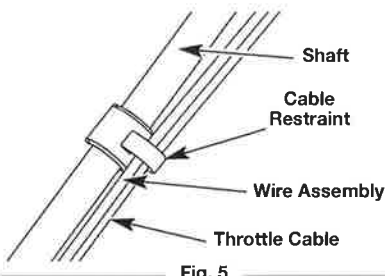

Fig. 5
- Insert the throttle cable and wire assembly into the cable restraints on the lower and upper shafts (Fig. 5).